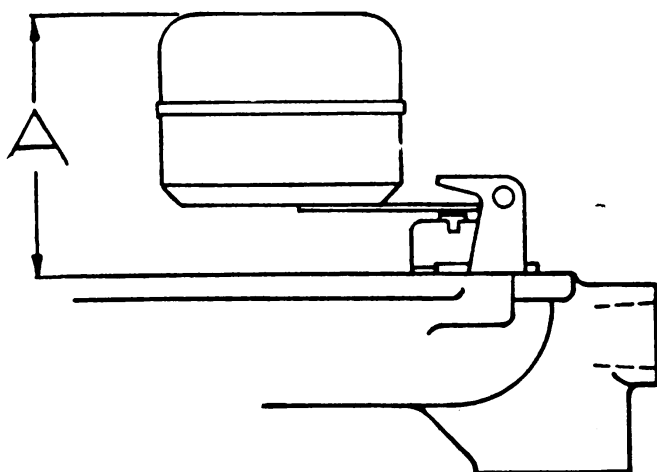

Fig. 21. Diagram Showing Measurement of Carburetor Float Level. Measurement A Should be $1\frac{1}{2}$ Inch Plus or Minus $\frac{3}{64}$ Inch
15. Replace idling jet (5) using a small screw driver (no gasket required).
20. Check position of float to obtain correct fuel level, as shown in Figure 21. The A dimension should be $1\frac{5}{32}$ " plus or minus $\frac{3}{64}$ ". (Move the gasket to one side while making the measurement.)
21. Place the venturi (1) in position in the throttle body.